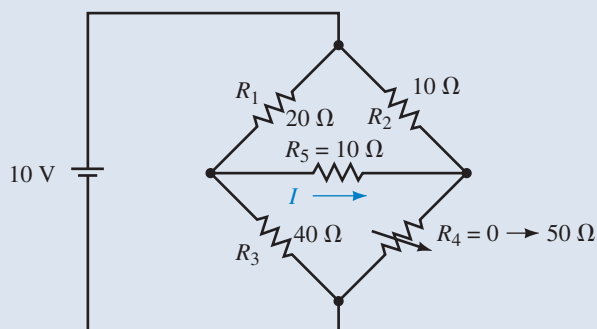

FIGURE 8–59
1. For the circuit shown in Figure 8–59, what value of R_4 will ensure that the bridge is balanced?
2. Determine the current I through R_5 in Figure 8–59 when $R_4 = 0\ \Omega$ and when $R_4 = 50\ \Omega$.